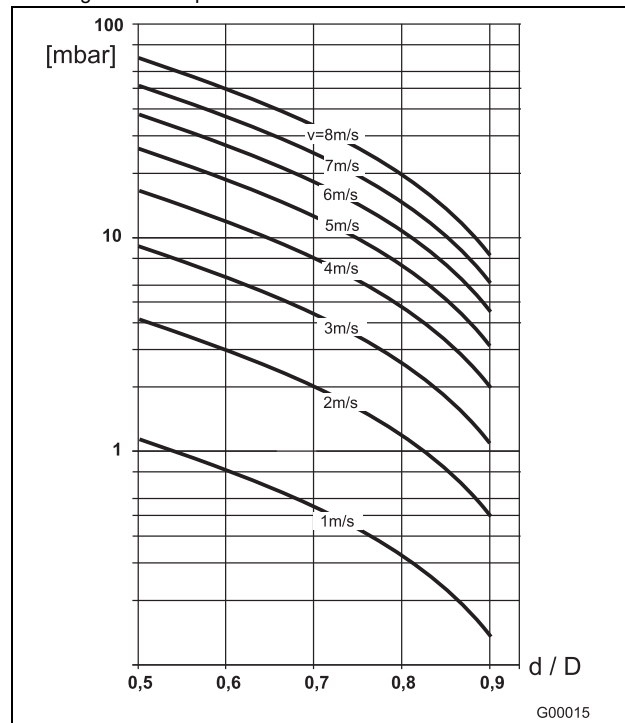

Fig. 21
- Determine the flow velocity based on the flow range nomograph (Fig. 21).
- Read the pressure drop on the Y-axis in Fig. 21.